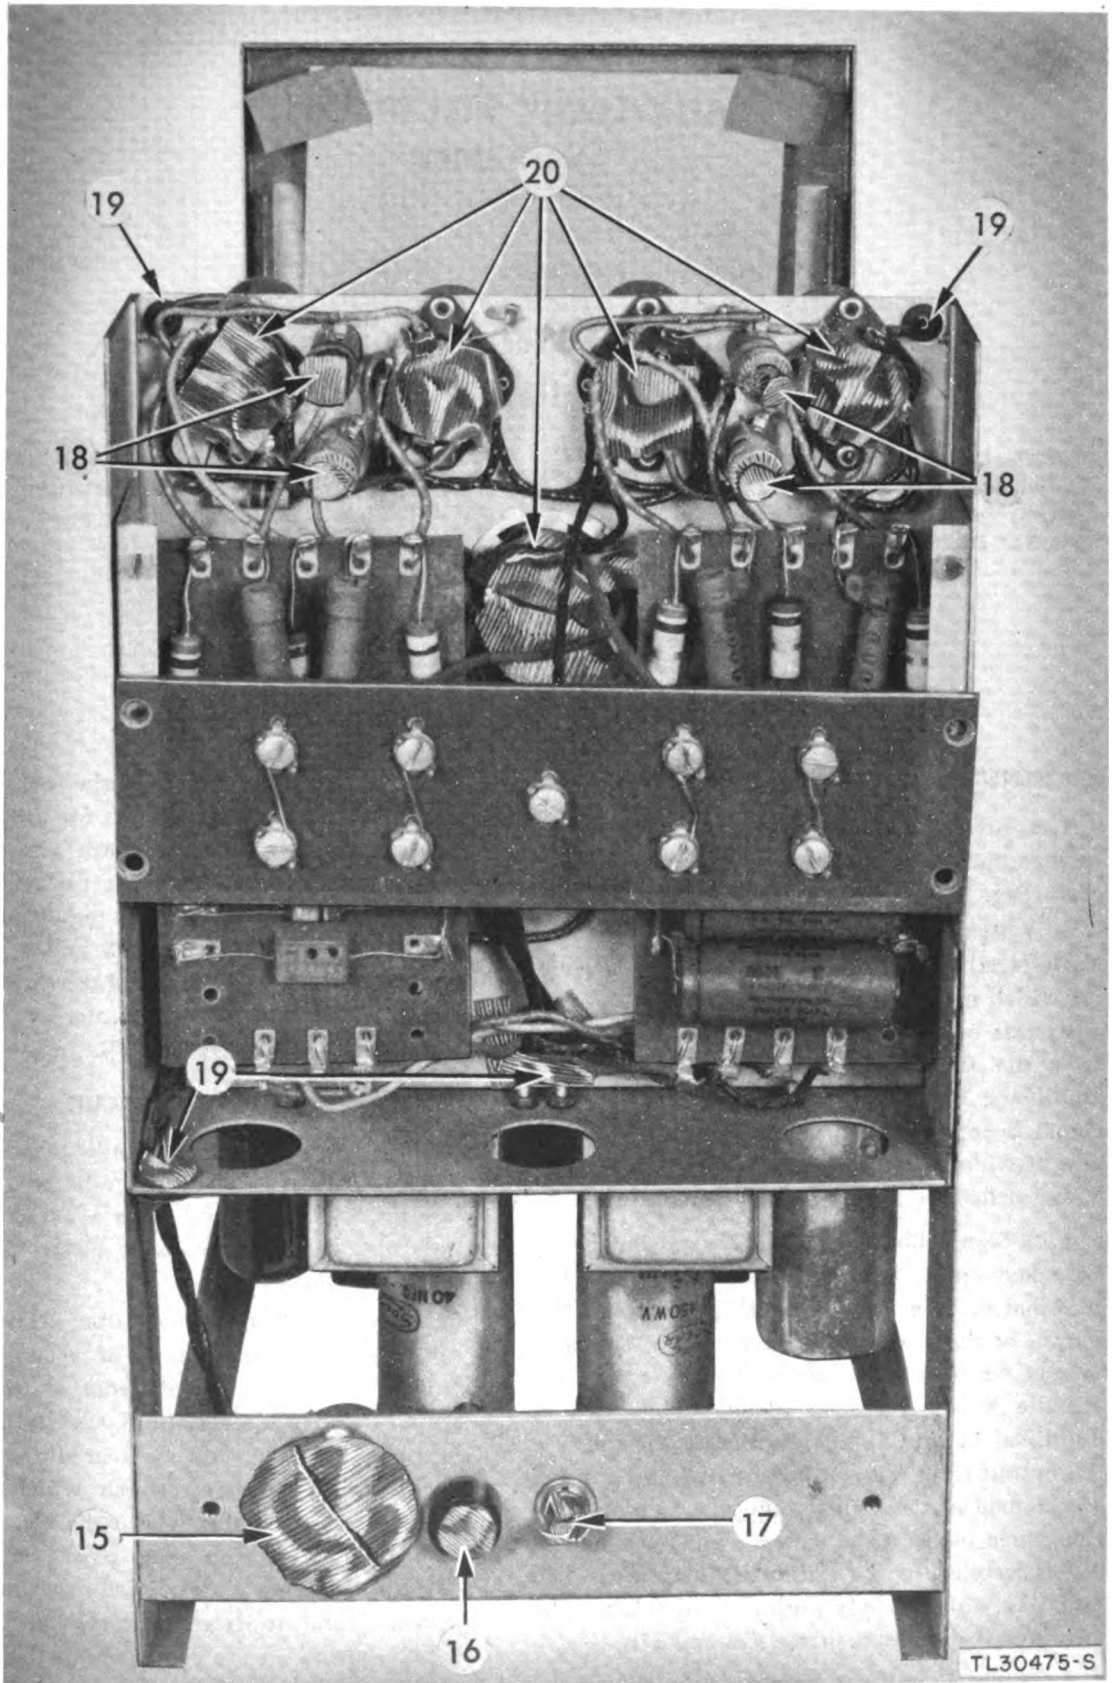

Figure 8. Back of chassis masked.
(3) Mask the following parts on the rear of the chassis (fig. 8).